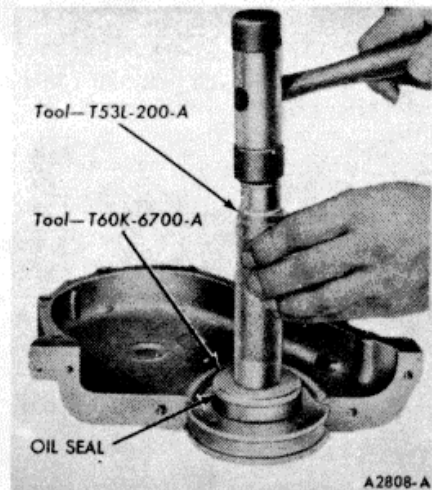

FIG. 44 Crankshaft Front Oil Seal Replacement
1. Coat a new seal with grease and install the seal. Drive the seal in until it is fully seated in the recess (Figure 44). Check the seal after installation to be sure the spring is properly positioned in the seal.